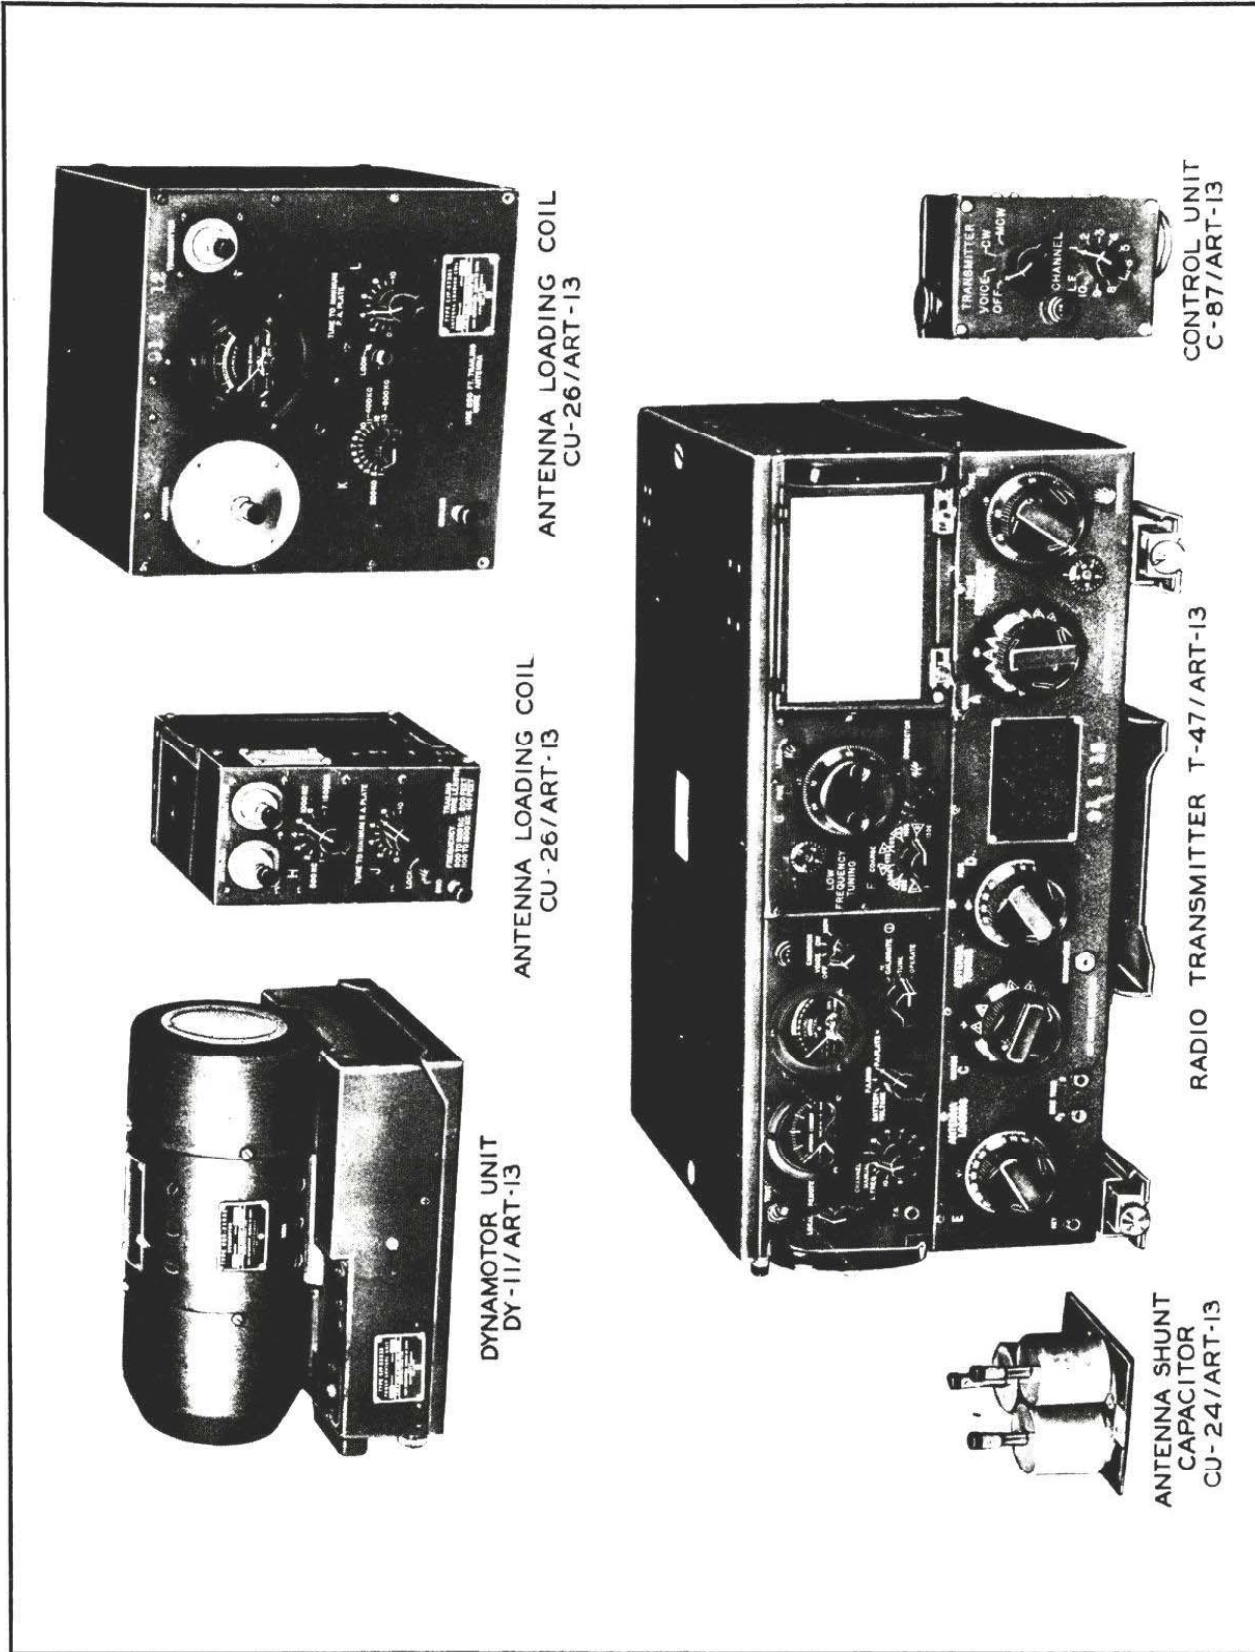

Figure 1-2—Radio Transmitting Set AN/ART-13 (Navy Model ATC or ATC-1) Major Assemblies
a. The contents of this handbook apply to Radio Transmitting Set AN/ART-13A (fig. 1-1); to an earlier model of the same general type of equipment, identified as Radio Transmitting Set AN/ART-13 (also known and employed by the U.S. Navy as Navy Model ATC or ATC-1) shown in figure 1-2; and to the latest model, designated AN/ART-13B, which uses all of the components included with the above two assemblies, excepting their low frequency oscillator units, O-16/ART-13 or O-17/ART-13A. This new model (see fig. 1-2A) includes the CDA-T, 24 frequency Crystal Oscillator Unit, which replaces the original low frequency units. Use of the CDA-T Unit does not interfere with the original VFO functioning of the Transmitter excepting in the frequency range.
b. This equipment includes transmitting components which provide radio communication by voice, modulated continuous wave telegraphy (MCW), or continuous wave telegraphy (CW).